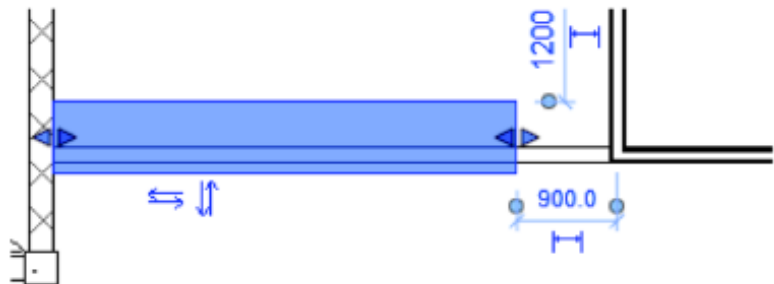

Figure 8–12
4. Place the Countertop component over the partial height wall. Modify its length using the controls on each end, as shown in Figure 8–12.